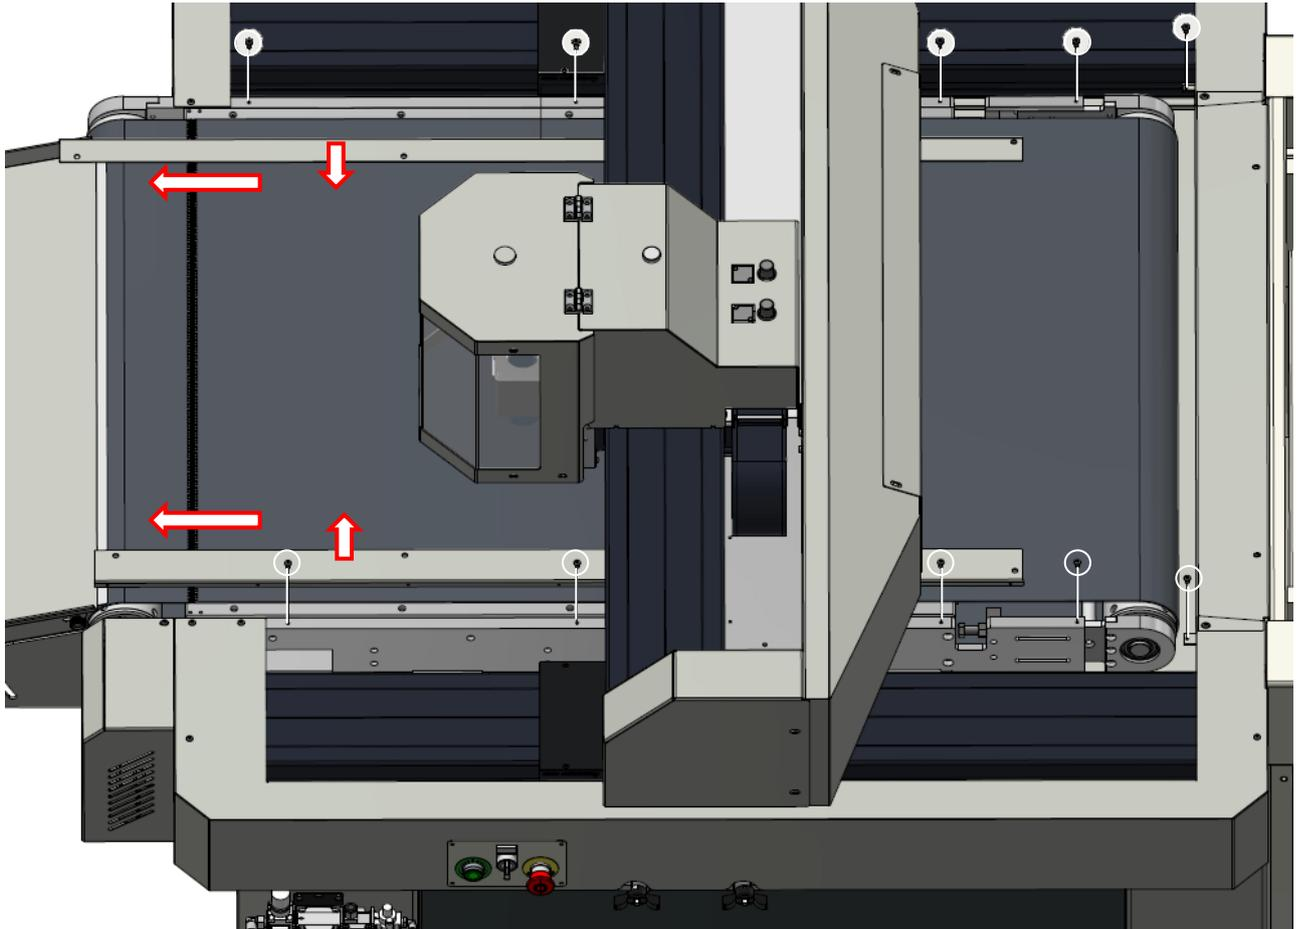

Figure 8-4
- Re-tighten and refasten the two protection strips previously removed Figure 8-4.